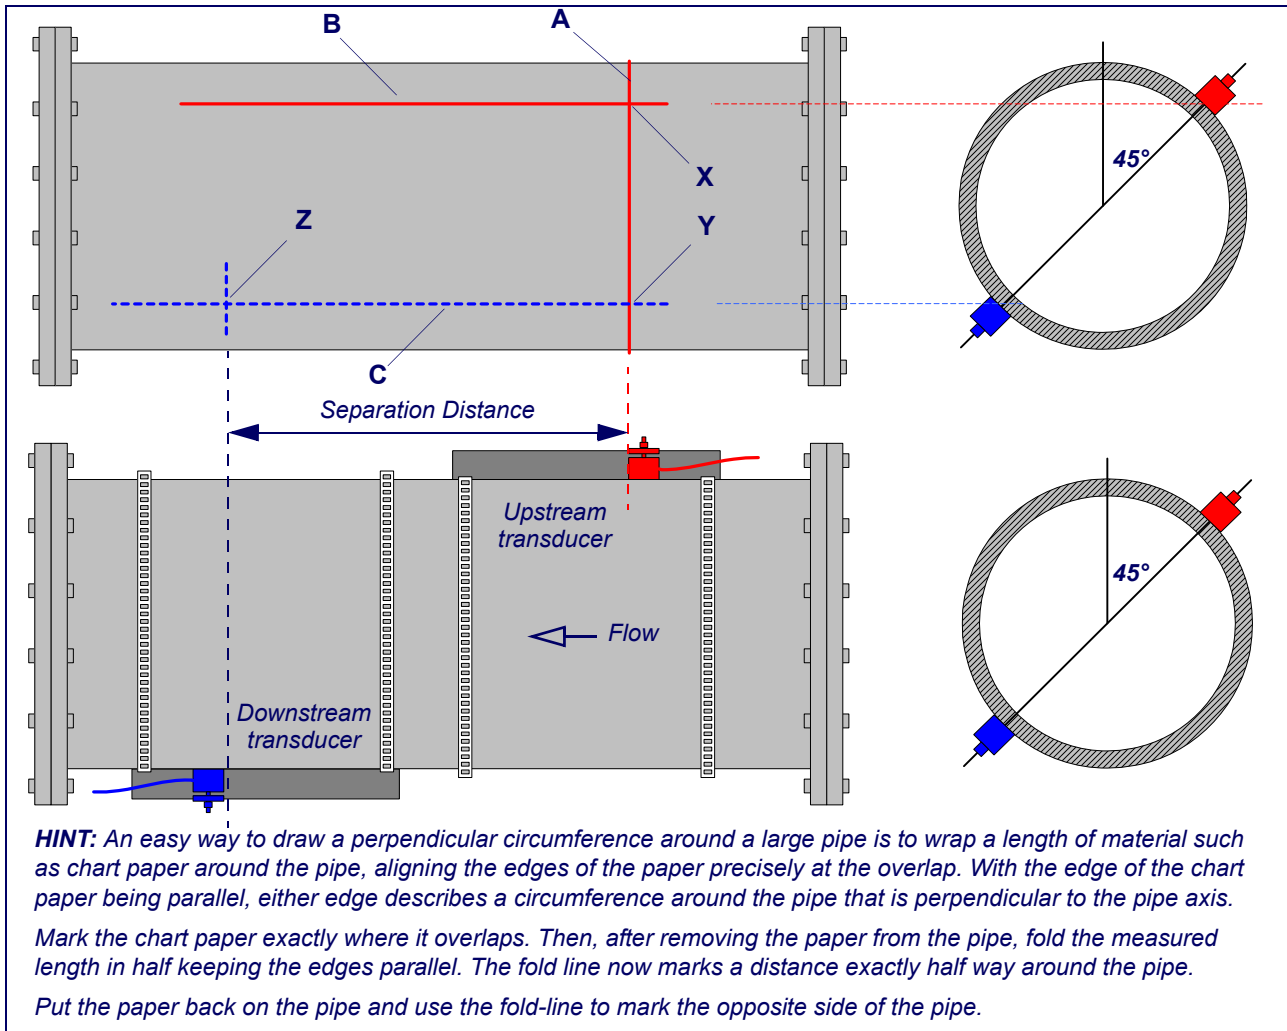

Figure 2.13 Transducer mounting for diagonal mode of operation
This mode of operation requires two transducer guide rails fitted on opposite sides of the pipe, as shown in Figure 2.13 – notice that the guide rails are still fitted on a 45° axis with respect to the top of the pipe. When used with type 'A' or 'B' transducers the guide rails used are identical to that shown above, and the second guide rail and fixings must be purchased as an option kit.
2. Using whatever means available, mark a reference line around the circumference of the pipe approximately where the upstream transducer is to be fitted – line 'A' in Figure 2.13.
5. From point 'Y', draw a one metre long line ('C') perpendicular to 'A' and parallel to the pipe axis. This is shown as a dashed line in Figure 2.13 as it is on the rear of the pipe.